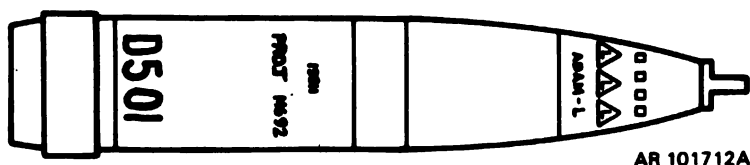

Figure 211.13. M692 projectile.
(12) *Projectile, 155-mm, high explosive M692* (fig. 211.13). This projectile is known as the Area Denial Artillery Munition. It is painted olive drab with yellow markings. The most significant marking is the row of yellow triangles between the nose and the bourrelet and contains the letter "L" that indicates a long self-destruct time for submunitions. These submunitions are antipersonnel mines to deny the enemy free use of certain areas for a period of time. This is a base-ejection type projectile, and uses the M577 time fuze.